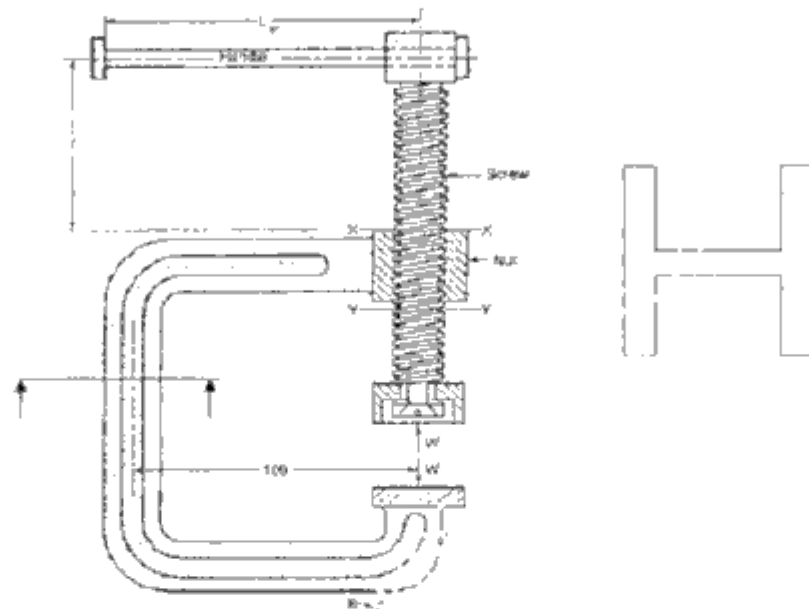

Figure 1 C-clamp
Q.No.2 a) Design a spigot-socket type cover joint to transmit an axial load of 42 kN. Select appropriate materials for its components and draw its neat sketch showing major dimensions on it. (14)
Q.No. 3 a) State the assumptions made in the analysis of curved beams. (4)
- Design a single start square threaded screw for a C-clamp shown in figure 1. The maximum force exerted by the clamp is 5 kN. Use the following data: (16)
Also, design the I-section as shown by the side of figure 1, taking web = flange = $4t$, where t = thickness of flange and web of the I-section of the clamp body.